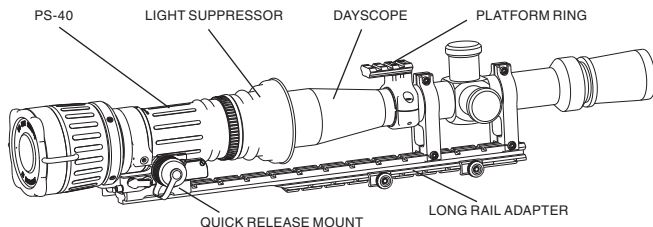

**FIGURE 2-2.
4. Install the battery into the battery compartment. Follow battery symbol on the sight body (Figure 2-2).